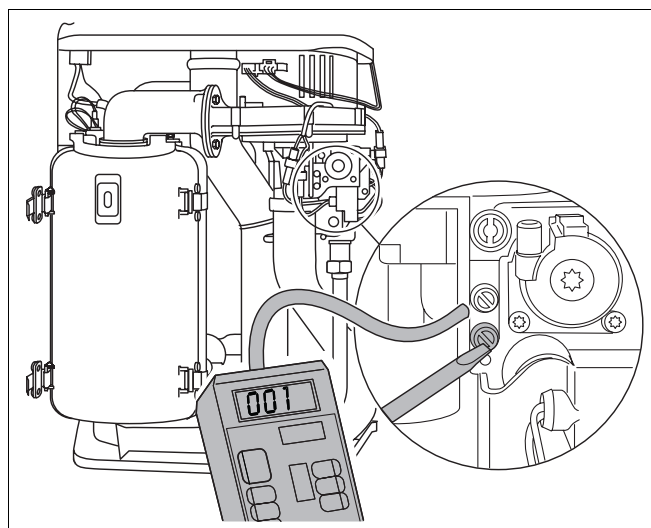

Fig. 36 Measure the gas connection pressure
- Loosen the screw plug on the gas test nipple (fig. 36) by two turns.
- Unscrew the sealing closure of the burner-pressure testing nipple by one turn (fig. 36).